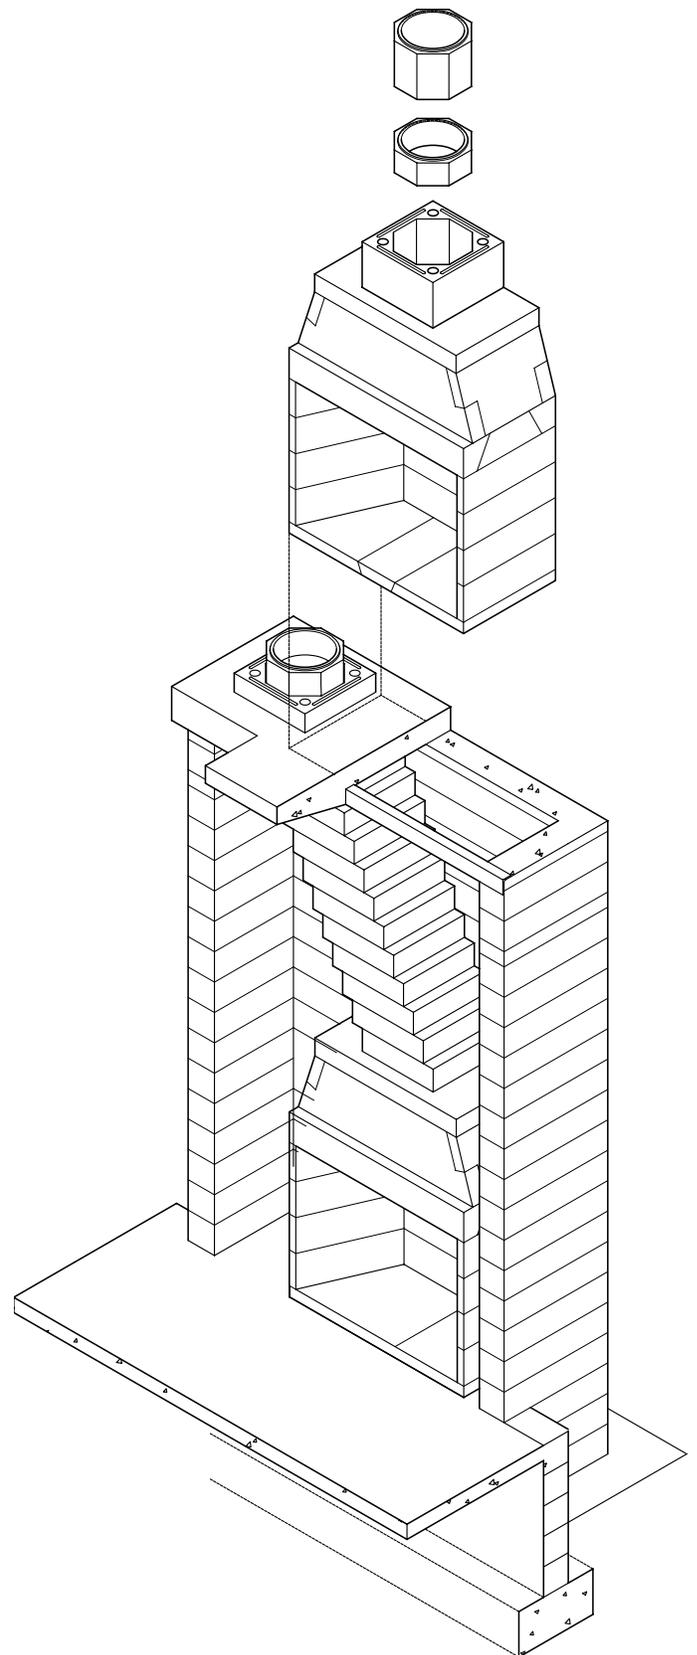

FIGURE 77
Frequently in two story stacked installations the lower unit is supported by a slab-on-grade, whereas the upper unit is a typical off-grade support. The off-grade slab for the upper unit must be built with sufficient width in order to accommodate the width of the upper fireplace plus the width of the by-passing chimney system rising from the lower unit. (Figure 77)
The slab for the lower unit will need to be built with enough width to provide support for the lower fireplace unit plus the bearing surface for the support columns needed to carry the offset chimney sequence of the lower system. (Figure 77)
In the interest of clarity the drawing on pages 44 and 45, (Figures 77 & 78) of the offset chimney sequence does not show the offset block support columns as required for offset sequences and as described on pages 33 & 34 of this manual.
In the interest of clarity the drawings on page 44 and 45 (Figures 77 & 78) of the offset chimney sequence do not show the offset block support columns as required for offset sequences. See pages 33 & 34 for complete offset support instructions.
- 2) Zero inch (0") clearance at the Isokern smoke dome front wall (Figure 77).